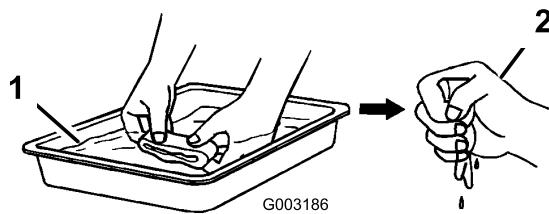

Figure 23
2. Dip the foam filter in clean engine oil, then squeeze out all the excess oil (Figure 23). The engine will smoke when started if too much oil is left in the foam.